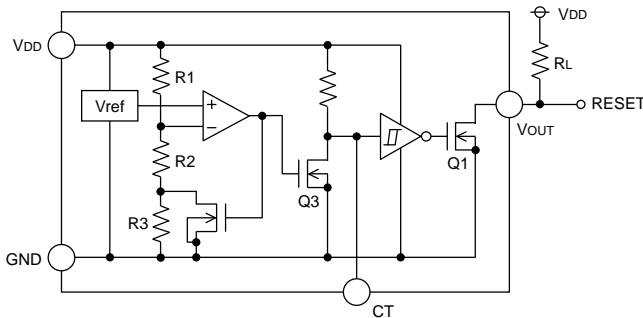
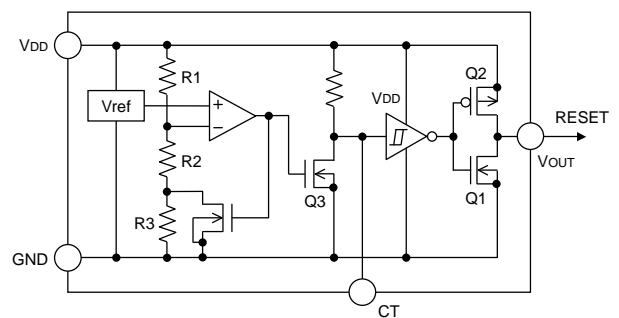

Fig.15 (BD52□□Type Internal Block Diagram)
Fig.16 (BD53□□Type Internal Block Diagram)
For both the open drain type (Fig.15) and the CMOS output type (Fig.16), the detection and release voltages are used as threshold voltages. When the voltage applied to the VDD pins reaches the applicable threshold voltage, the VOUT terminal voltage switches from either “High” to “Low” or from “Low” to “High”. Because the BD52□□G/FVE series uses an open drain output type, it is possible to connect a pull-up resistor to VDD or another power supply [The output “High” voltage (VOUT) in this case becomes VDD or the voltage of the other power supply].
Example: the following shows the relationship between the input voltage VDD, the CT Terminal Voltage VCT and the output voltage VOUT when the input power supply voltage VDD is made to sweep up and sweep down (The circuits are those in Fig.15 and 16).
Use the open drain output type (BD52□□G/FVE) attached a load resistance (RL) between the output and VDD2. (As shown Fig.15)
Use CMOS output type (BD53□□G/FVE) or open drain output type (BD52□□G/FVE) attached a load resistance (RL) between the output and VDD1. (As shown Fig.16)